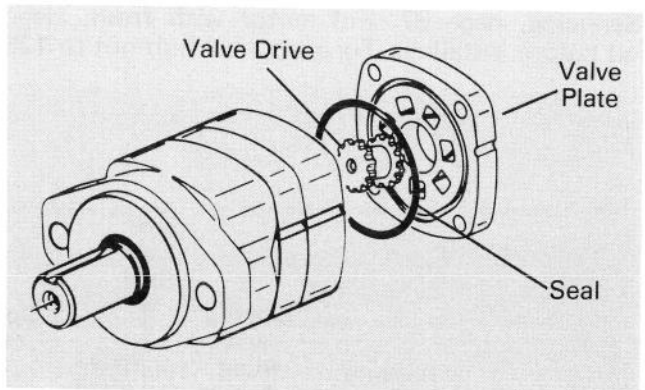

Figure 94
11. Remove the valve plate (Fig. 94).
12. Remove the 3" diameter seal from valve plate (Fig. 94).
13. Remove the valve drive (Fig. 94).